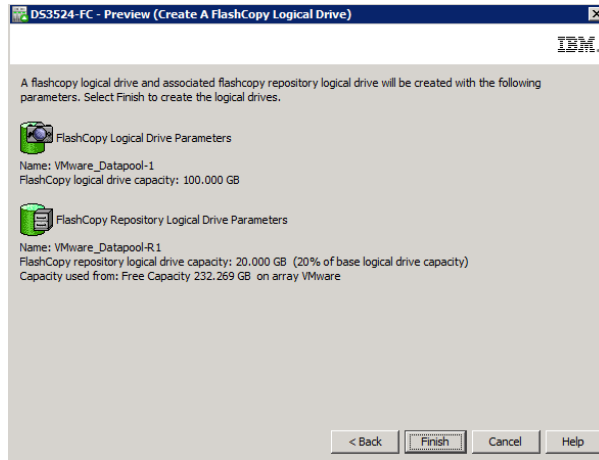

Figure 2-9 Create FlashCopy Logical Drive wizard: Preview
- c. The Create FlashCopy Wizard Preview panel opens, as shown in Figure 2-9. It lists components associated with the FlashCopy. Review the information and click **Finish**.